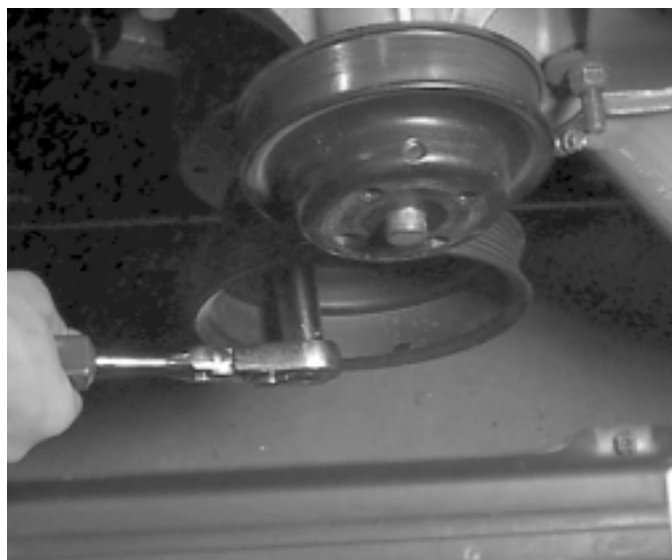

Fig. 2-h
- Y.** Remove the four factory crank pulley bolts with a 9/16" socket and extension and remove the pulley from the vehicle. (See *Fig. 2-h*.)